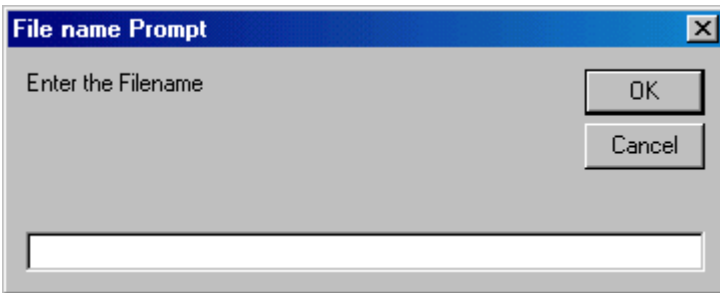

Figure 6. File Name Prompt
1. Click the **Start** button on the *Main Menu*. The software requests a file name as shown in Figure 6.
1. Click the **Upload** button. The software requests a file name as shown in Figure 6.